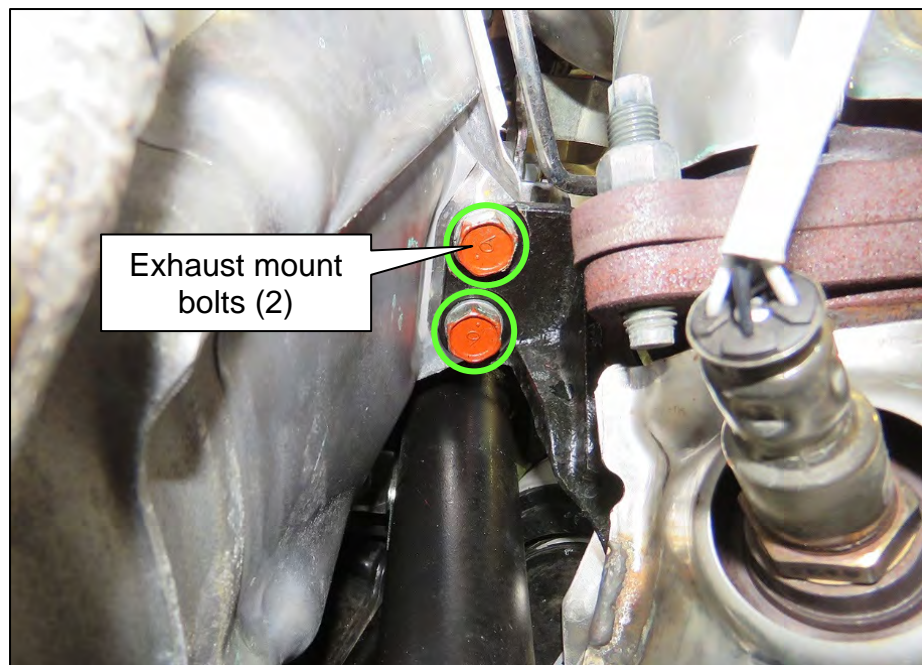

Figure 47
70. Remove the two (2) exhaust mount bolts shown in Figure 47.